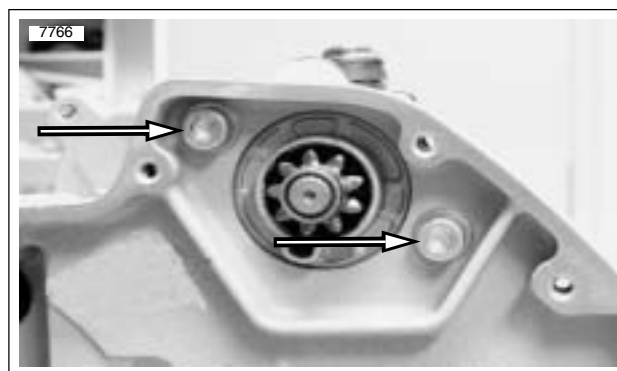

Figure 5-10. Starter Mounting Bolts and Washers (Primary Side)
7. See Figure 5-10. Remove both starter mounting bolts and washers.